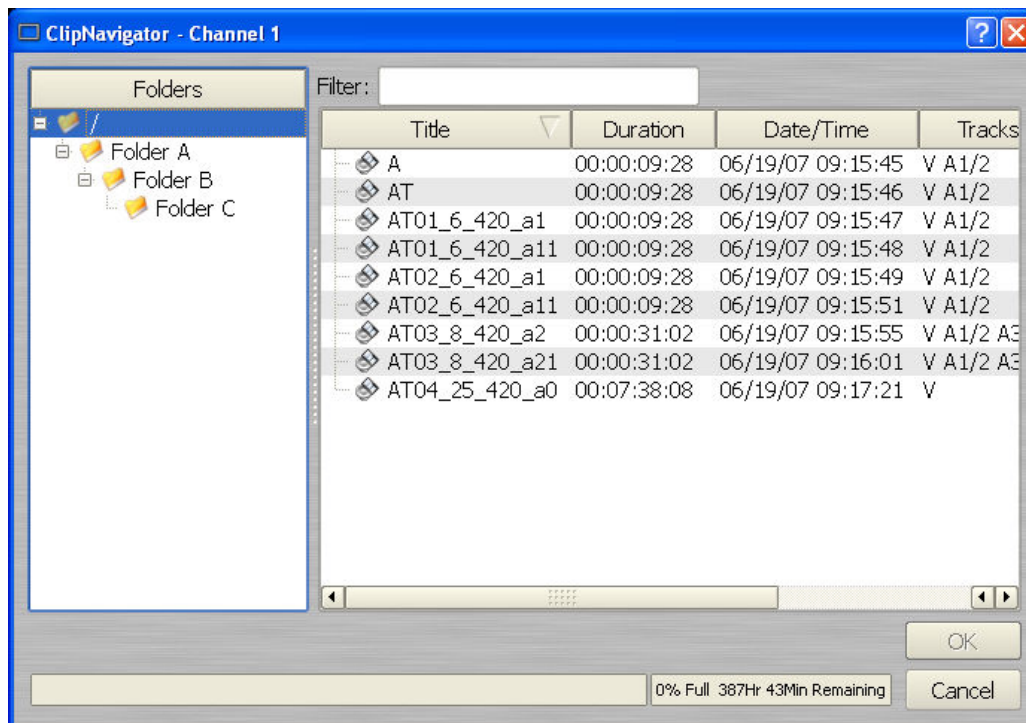

Figure 11 - Channel 1 Clip Navigator in "Open" Mode
- Select **FILE->OPEN** from the Transport Window of Channel 1, 2 or 3. The Clip Navigator will appear per Figure 11.